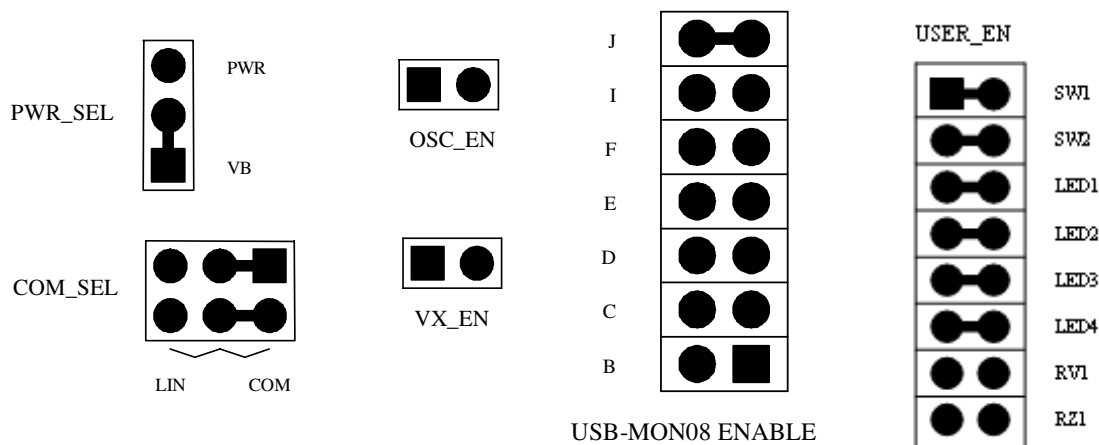

Figure 1. DEMO908QC16 Default Settings
Figure 1 illustrates the default settings for the DEMO908QC16 demo board. Please refer to the DEMO908QC16 User’s Guide on the Axiom CD for information on other configurations. Black blocks indicate the “on” or “installed” position of jumpers. Please check the settings before continuing.
1. Check the jumper settings and make sure they are in the default position. Use Figure 1 as a guide.